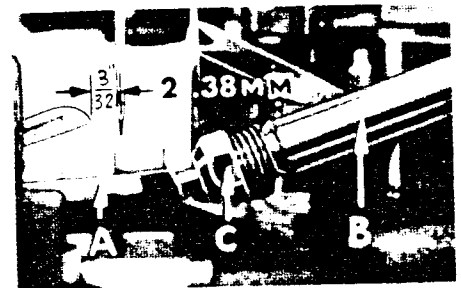
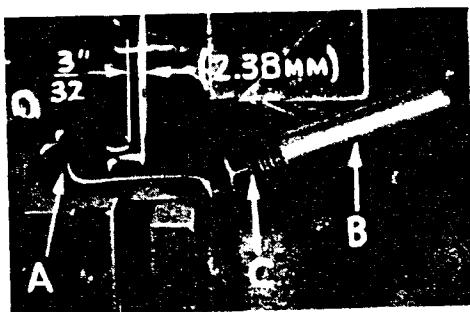

Fig. 6
Fig. 6A
At this point, insert lower looper (A, Fig. 6) on 695B012, 030 and 051 or lower spreader (A, Fig. 6A) on 695B030 into bar (B). With lower looper or spreader at left end of its stroke, set looper or spreader point $3/32$ inch (2.38 mm) from centerline of needle (Fig. 6 or 6A) using looper gauge No. 21225- $3/32$. Do not have lower looper or spreader deflecting needle. Tighten nut (C). Now assemble differential (front) feed dog.